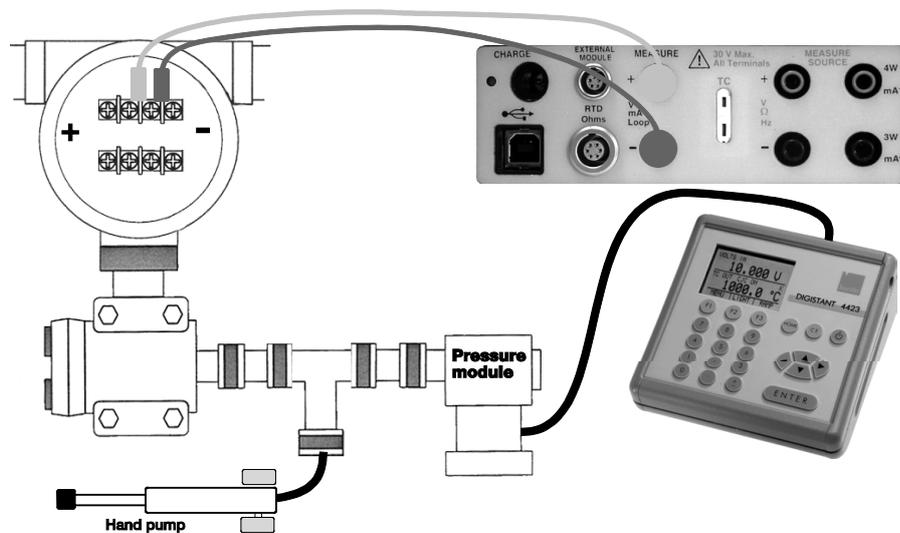

Figure 22: Calibrating a Pressure Transmitter
- Connect the calibrator to the transmitter and the pressure module (shown in Figure 22).